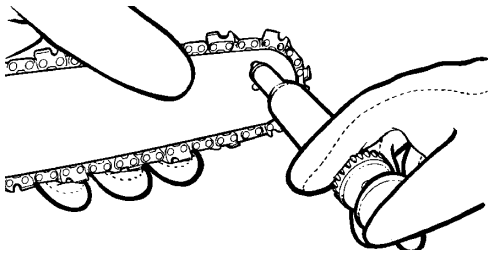

Fig. 28
3. Using the Lube Gun (optional), insert tip of lube gun into the lubrication hole and inject grease until it appears at outside edge of sprocket tip (Fig. 28).